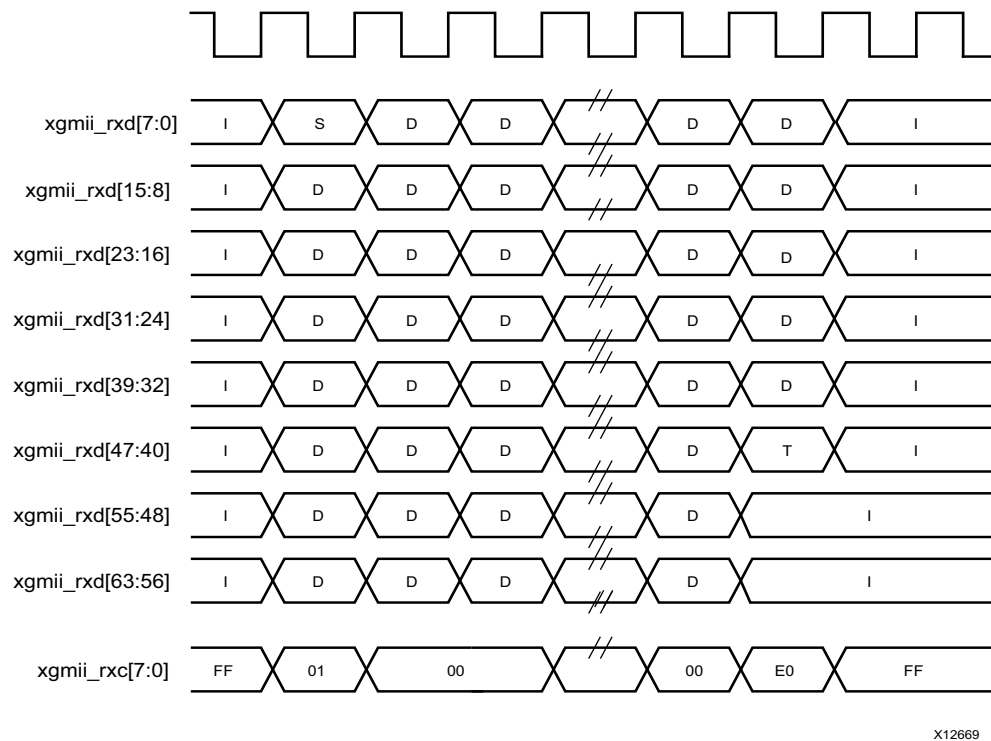

Figure 3-9: Frame Reception Across the 64-Bit XGMII Interface
The timing of a normal inbound frame transfer is shown in Figure 3-9. As in the transmit case, the frame is delimited by a Start character (S) and by a Terminate character (T). The Start character in this implementation can occur in either lane 0 or in lane 4. The Terminate character, T, can occur in any lane. The clock source for Figure 3-9 can be determined from Table 3-1.